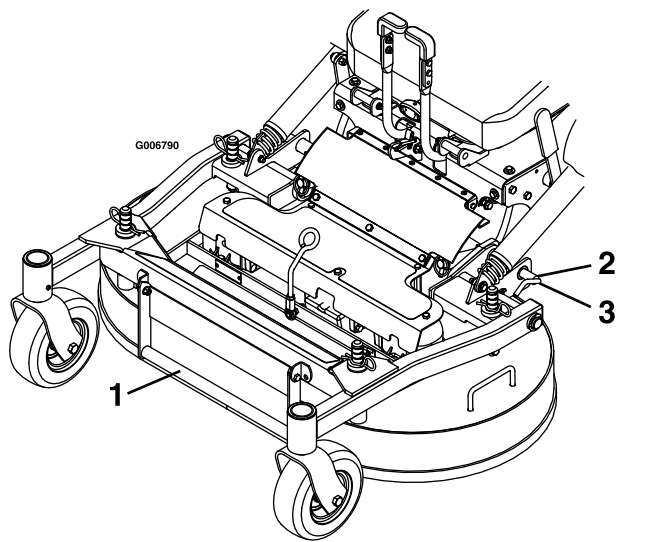

Figure 9
2. Release the mower-deck locking pins on each side (Figure 9).
2. Push the deck-locking pins inward and rotate them forward to securely lock the mower deck in the lowered position (Figure 9).